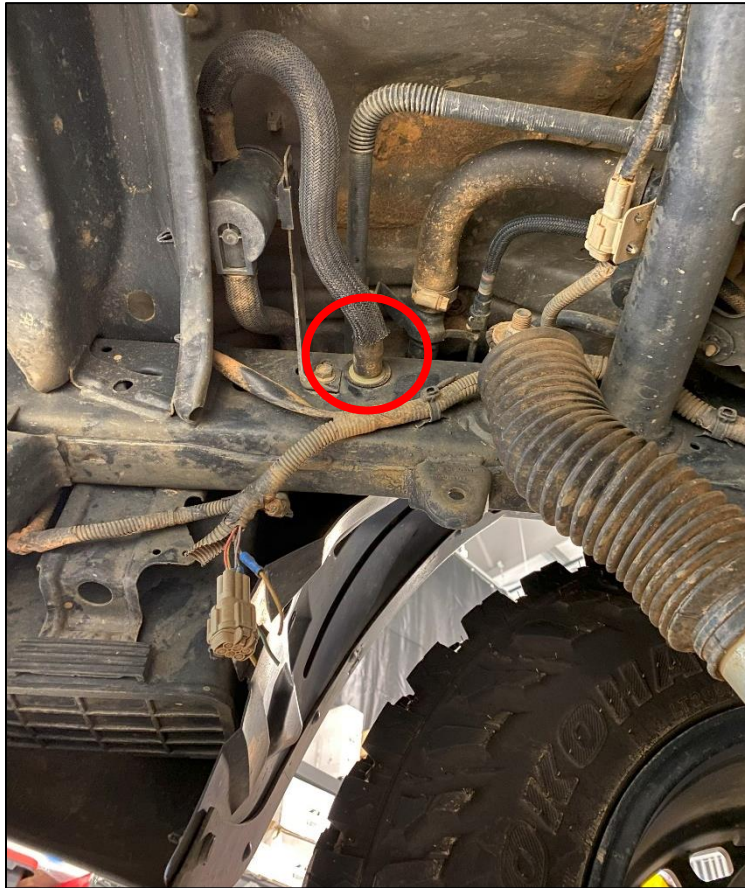

Figure 5
8. Disconnect the OE EVAP Breather from the Frame Rail of the Vehicle. *Figure 5.*